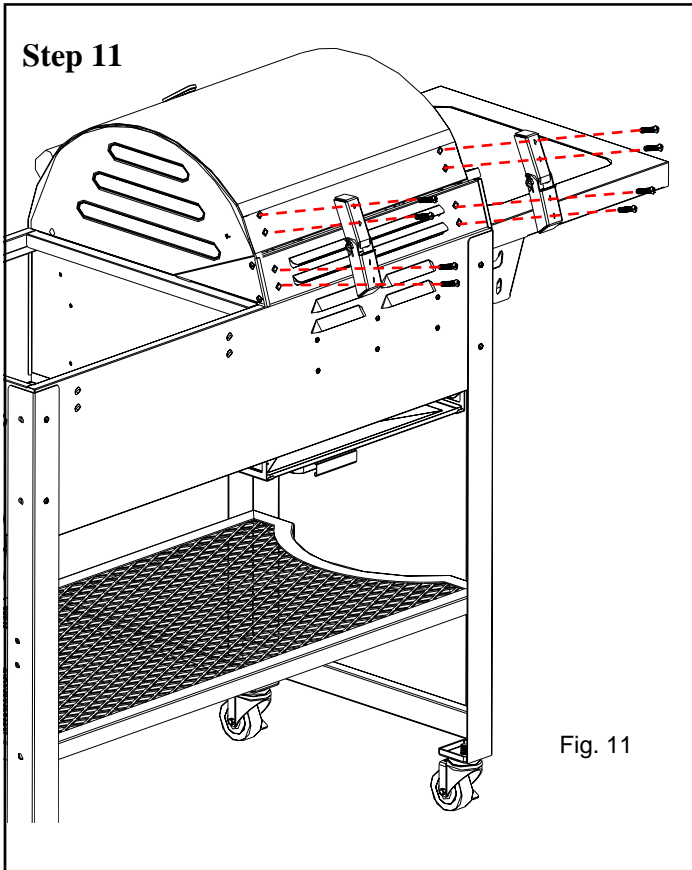

Fig. 11
Refer to Fig. 11, attach Gas Grill Lid and Windscreen to Hinge Assemblies using (8) M6*35 Bolts as shown.